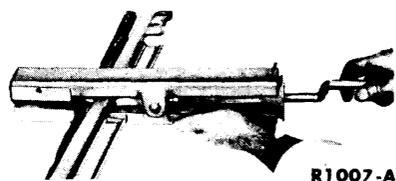

FIG. 13—Remove or Install Glass Channel
6. Remove the glass frame retaining screws, and then remove the glass channel, glass weatherstrip, frame, and glass tape (Fig. 13).
7. Install the glass frame on the glass (Fig. 13), using new glass tape. Install the glass channel and weatherstrip. Trim the excess glass tape.
6. To remove the glass frame, pull down the weatherstrip from the forward edge of the glass assembly, remove the frame retaining screws, and remove the frame and glass tape. Remove the glass channel (Fig. 13).